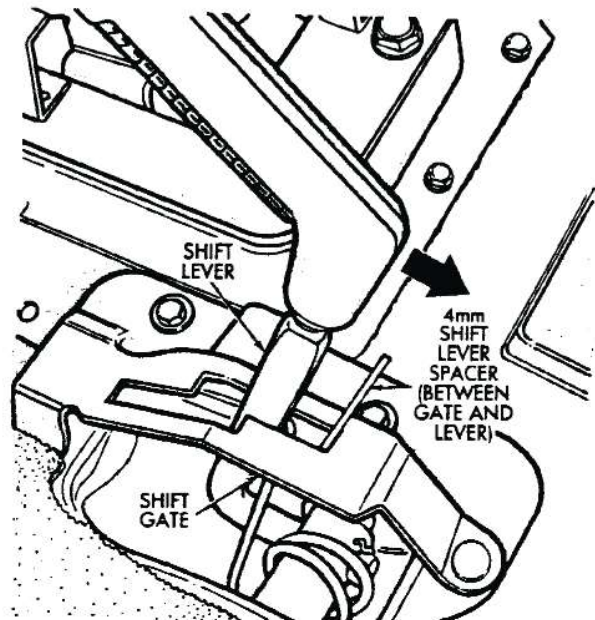

Fig 1-5 Installing Shift Lever Spacer-60/70 Series
3. Insert a 4 mm (.157 inch) spacer between the shift lever and forward edge of the shift lever gate (Fig. 1-5). Secure the lever and spacer in place with tape or wire.